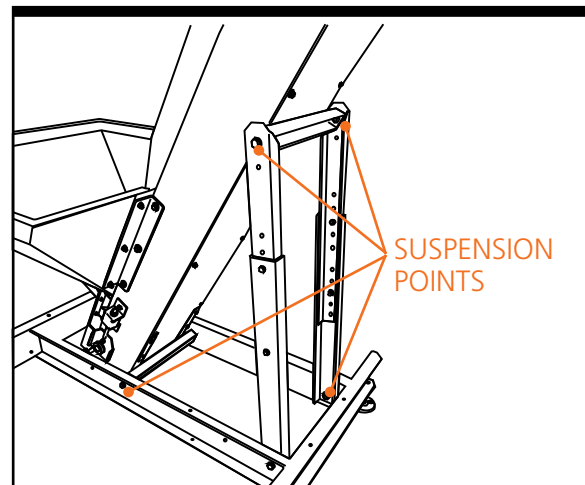

Figure 3-10. Adjusting the Dump Height Suspension Points
Step 13—Adjust Dump Heights. Once the extension is installed, you may need to adjust the dump height by more than the leveling feet will allow. To adjust the dump height of the prefeeder, loosen the six suspension points which connect the elevator and front legs to the frame of the prefeeder on both sides (see Figure 3-10). This allows the unit to pivot when adjusting the dump height once the two bolts in the telescoping portion